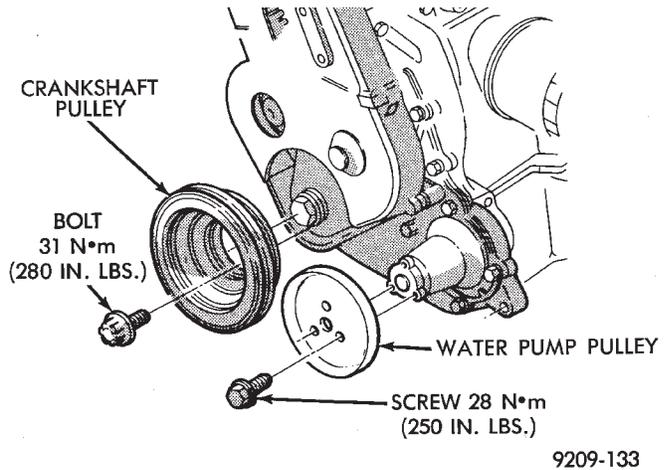

Fig. 3 Crankshaft and Water Pump Pulley
- (3) Remove screws retaining water pump pulley and bolts retaining crankshaft pulley (Fig. 3) and lay pulley aside.
- (4) Remove nuts holding cover to cylinder head.